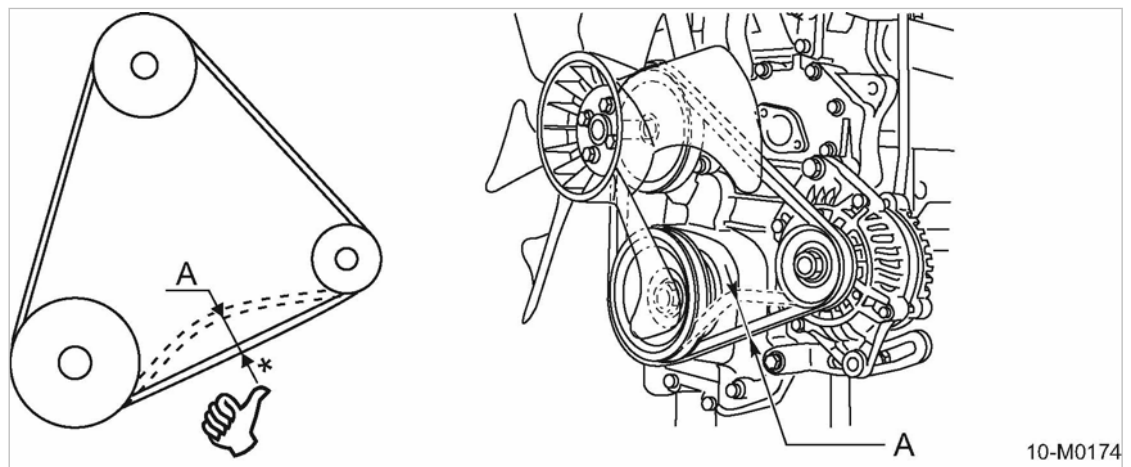

Fig. 60 Manually checking the belt tension
1. Check belt tension by hand (see Fig. 60).
6. Check the belt tension (see Fig. 60).